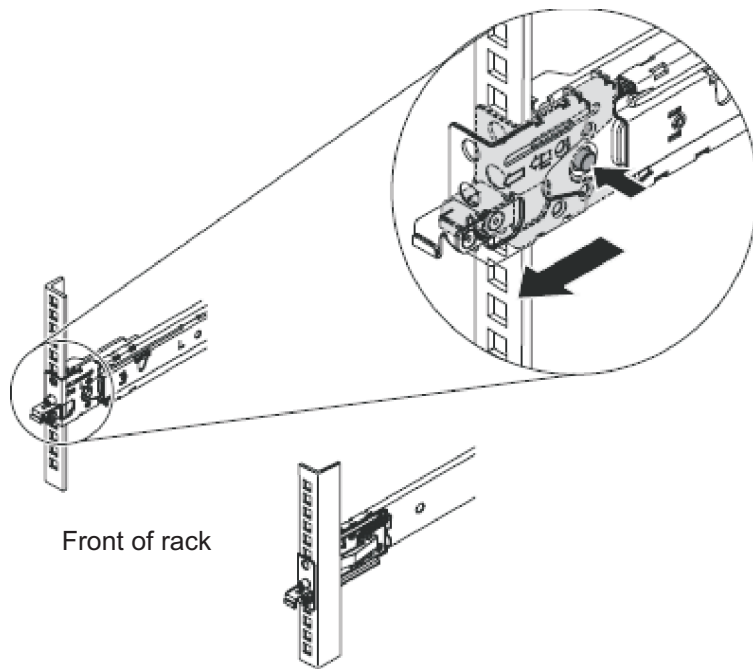

Figure 56. Removing the front end of the slide rails
3. Remove the front end of the slide rails, as shown in Figure 56.
5. Remove the rear end of the slide rails, as shown in Figure 56.